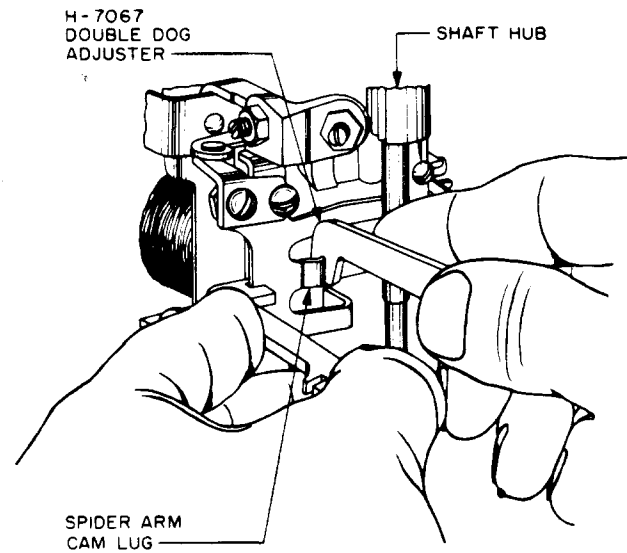

Fig. 12 – Method of Adjusting the Clearance Between the Spider Arm Cam Lug and the Shaft Hub
- (1) To change the clearance between the spider arm cam lug and the shaft hub, raise the shaft to the fifth level and adjust the lug as required with the H-7067 double dog adjuster as shown in Fig. 12.